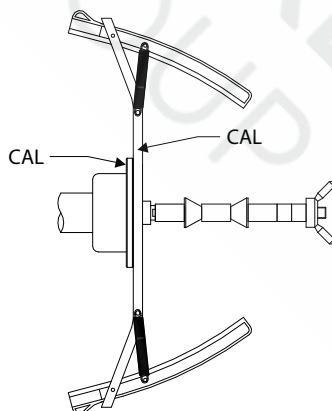

Fig. F4.1 Application of the motorbike flange onto the shaft. Align the writing “Cal” on the flange and on the flange for motorbikes
2. Attach the flange to the shaft for motorbike wheels as shown in Figure F4.1.